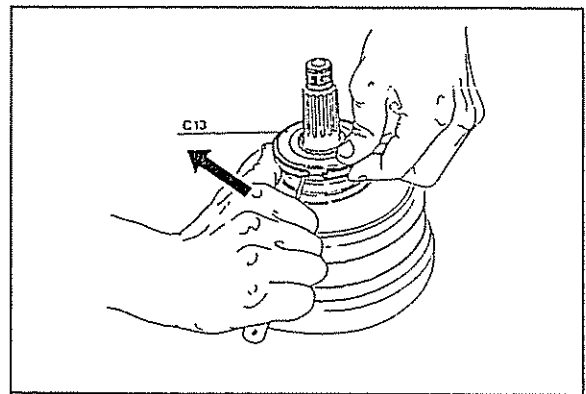

Figure B13
3.25. Remove the sealing rings from the clutch drum, See Figure B13.